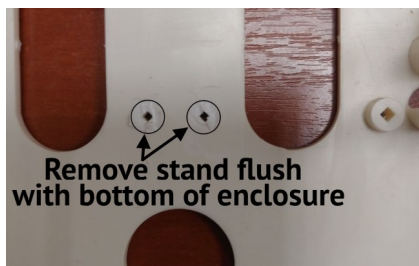

Figure 22. Preparing the device housing for the adapter "L25\_Crow\_rev3"
- “**L25\_CROW\_rev3**” Adapter – prepare a place for adapter (Figure 22) then install the adapter with double-sided tape (Figure 23);